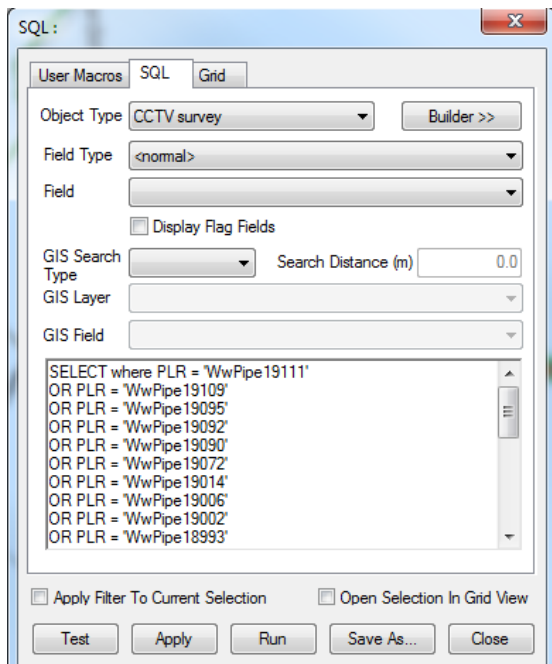

Figure 7 - Infonet Screenshot 2
6. Select CCTV surveys in Object Type. See Figure 7.
7. Paste SQL search into box -> select. See Figure 7.